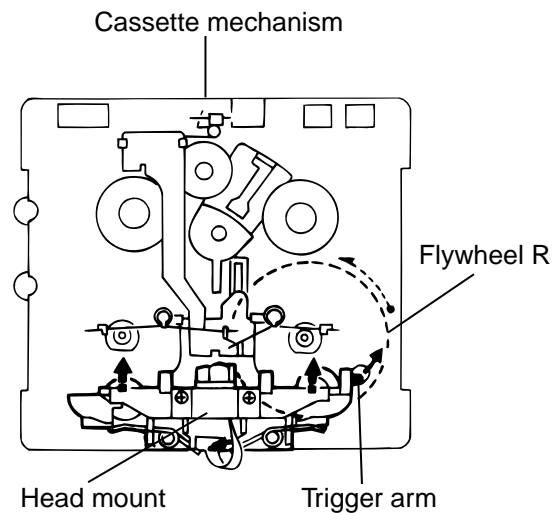

Fig. 1
### ■ Removing the playback/recording & eraser head ( See Figs. 1 and 2 )
1. While shifting the trigger arms seen on the right side of the head mount in the arrow direction, turn the flywheel R in counterclockwise direction until the head mount has gone out with a click (See Fig. 1).